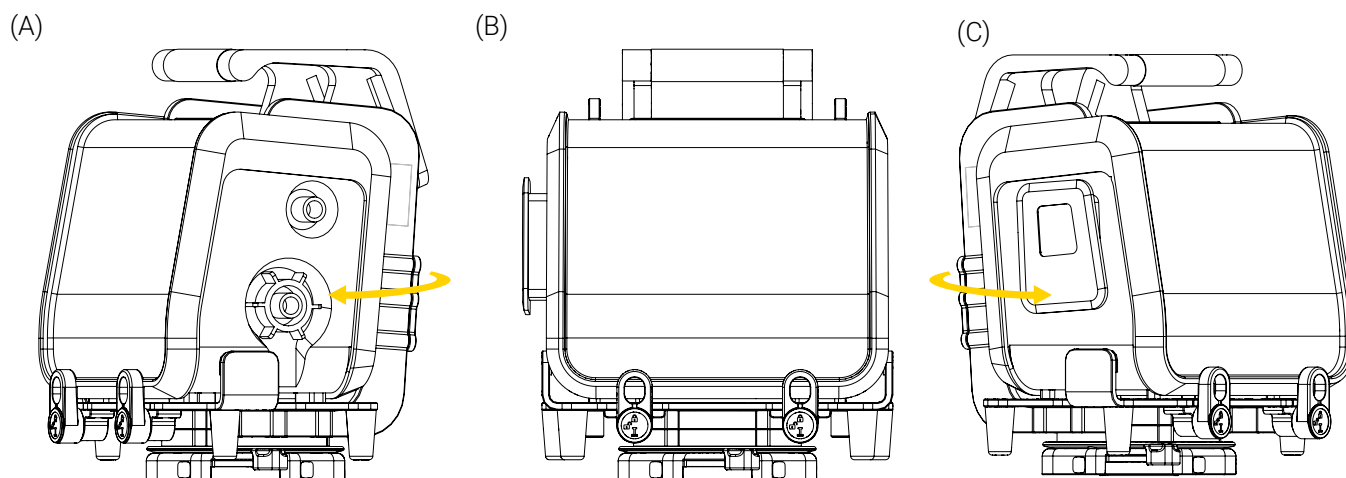

Figure 8: Operating the medical device on the base
6. Rotate the medical device up to 360° clockwise or counterclockwise, to the desired position (Figure 8).